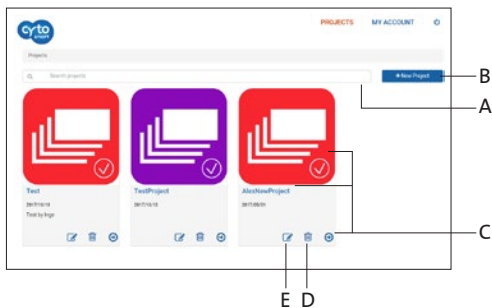

Figure 23. Project overview
After logging in to the Cloud, you will get access to an overview of all projects (Figure 23). Navigating the portal is simple. If you have multiple projects in an account, use the “Search Projects” bar (A) to quickly search for a project. To create a new project, select “New Project” (B). This is similar to beginning a new project, as described in Section 3. It is not possible to start an experiment from the cloud.